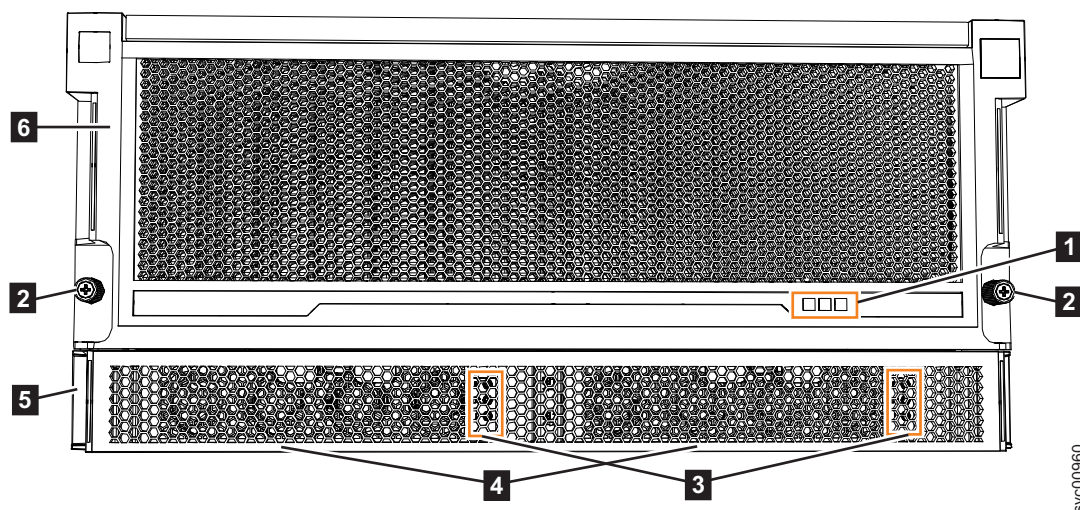

Figure 134. Features on the front of the 2145-92F expansion enclosure
- Before you connect the power cables to the rear of the enclosure, always check that the expansion enclosure is secured in the rack. If needed, tighten the thumbscrews on the front of the enclosure (**2** in Figure 134 on page 141) to ensure that the enclosure drawer does not roll open.
The 2145-92F expansion enclosure has two power supply units (PSUs) that are accessible from the front of the enclosure (**4** in Figure 134 on page 141). As the figure also shows, the PSUs are covered by the 1U fascia (**5**).
On the front of the enclosure, the indicators on the front display panel and each PSU (**1** and **3** in Figure 134 on page 141) are also lit when the power is connected. See “SAN Volume Controller 2145-92F expansion enclosure LEDs and indicators” on page 144 for information about the status that is provided by the indicators.